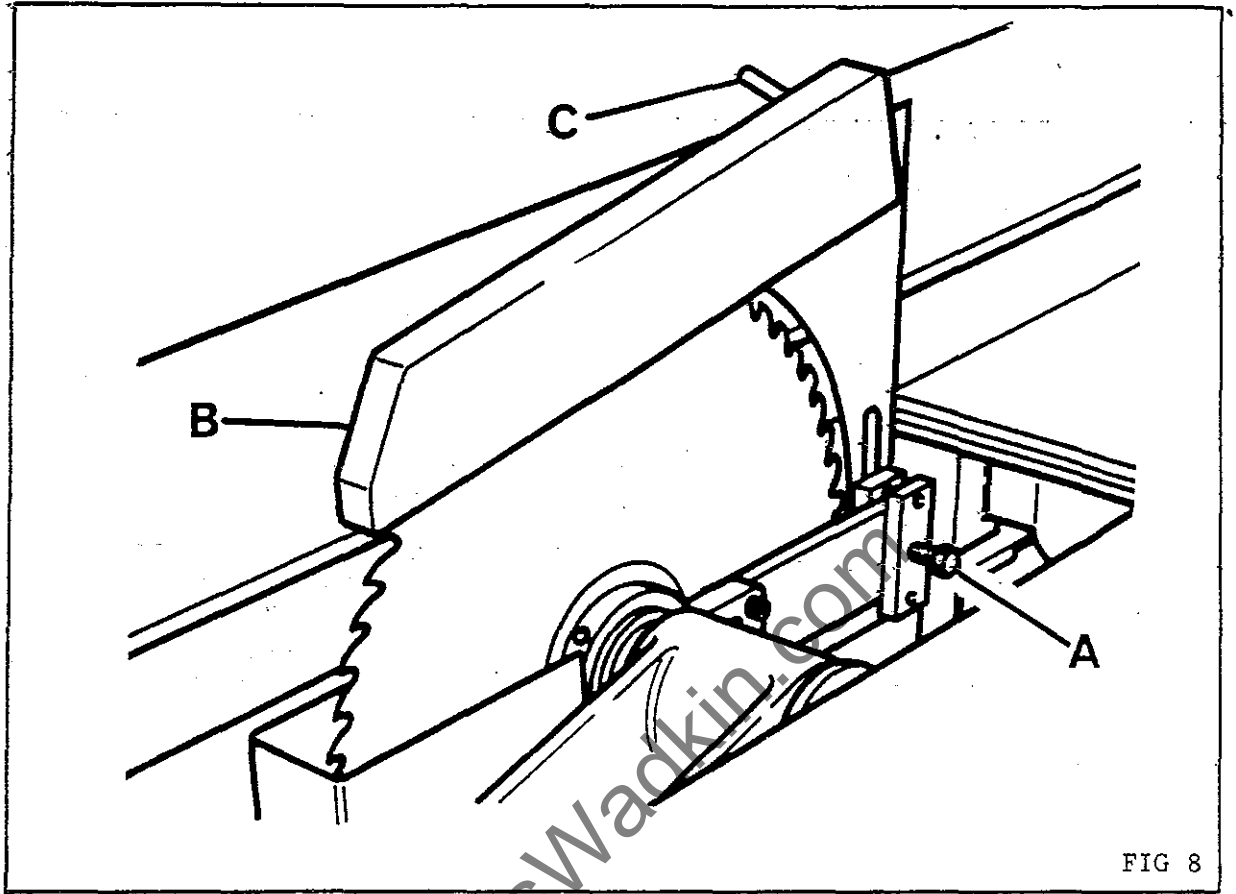

FIG 8
3. Loosen hexagon head bolt "A" in FIG 8.